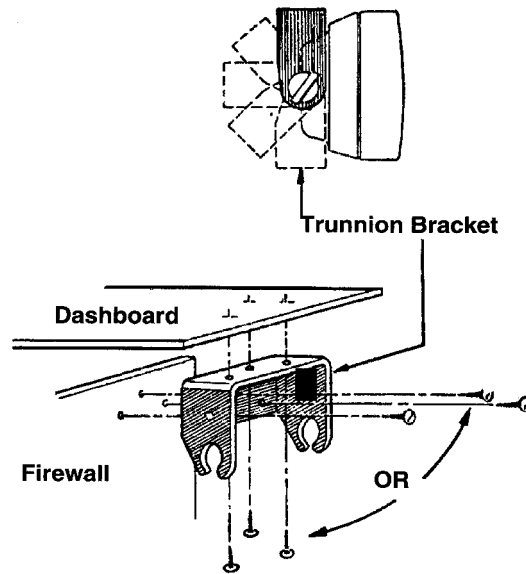

Figure 2-9. Mounting the Speaker Under the Dashboard
5. Mount the trunnion bracket with the screws supplied. Refer to Figure 2-9.